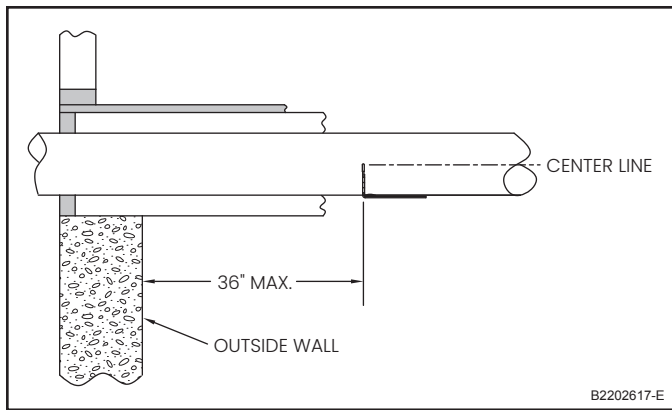

Figure 28. ODT Mounted in Intake Duct
When wired as shown in **Figure 28**, the ventilation damper will open whenever there is an HVAC heating (W), cooling (Y) or fan (Gs) call, allowing fresh air to be brought in when the HVAC blower is running (see **Ventilation with an External Control** section below for exceptions). The ventilation damper will also open if the dehumidifier is operating. **VENTILATING** will show on the dehumidifier control when the dehumidifier is actively ventilating. When the HVAC call ends, the dehumidifier stops, or after the set amount of ventilation time has been met, the ventilation damper will be closed.